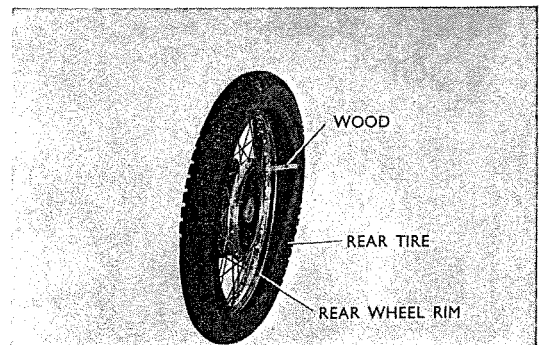

Fig. 4.89 Tire inspection
10. Inspect the inner and outer portion of tires for any abnormality. (Refer to Fig. 4.89)